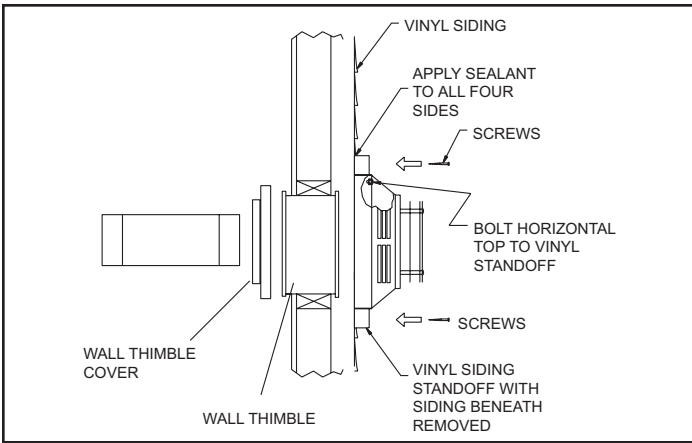

Figure 5.8
**(NOTE:** If you are installing termination cap HHW2, the pipe will be off center on the flashing). Ensure that proper clearances to combustible materials are maintained. If you are using an approved termination cap other than HHW2 on a building with vinyl siding, a vinyl siding standoff should be installed between the vent cap and the exterior wall, Figure 5.8. Attach the vinyl siding standoff to the horizontal termination cap. The vinyl siding standoff prevents excessive heat from possibly melting the vinyl siding material. The vent termination cap shall not be recessed into a wall or siding. Remove siding from the area where the standoff will be located.